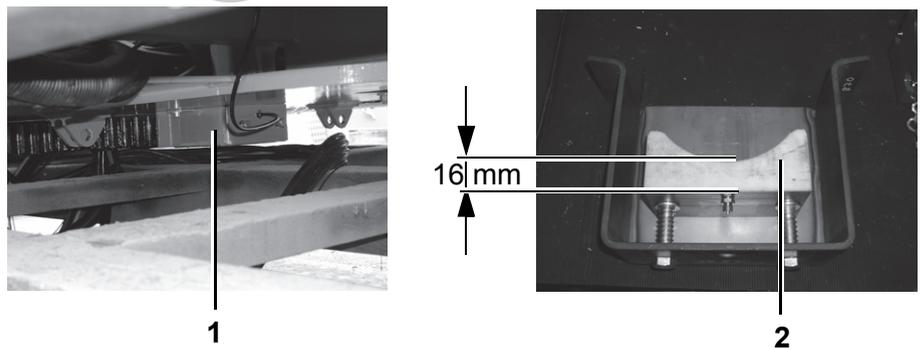

Fig. 231 Plastic skid on the pinion lubrication
- Check the plastic skid (2) in Fig. 231 in the lubrication assembly (1) in Fig. 231 once a month for wear.
- Replace the plastic skid (2) in Fig. 231 when it has reached its wear limit.
Proceed as follows before checking the plastic skid (2) in Fig. 231:
1	Remove the lubrication device (1) in Fig. 231.
2	Check the plastic skid (2) in Fig. 231 for wear.